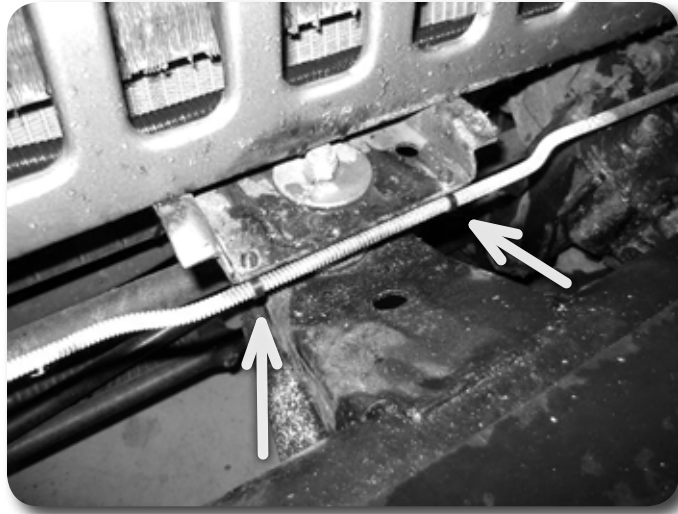

Figure 15
21. Locate the (2) provided mountable plastic wire ties. Attach the brake line to the bottom of the grill support bracket through the new holes with the wire ties. **Figure 15** Tighten wire ties securely and trim the excess.